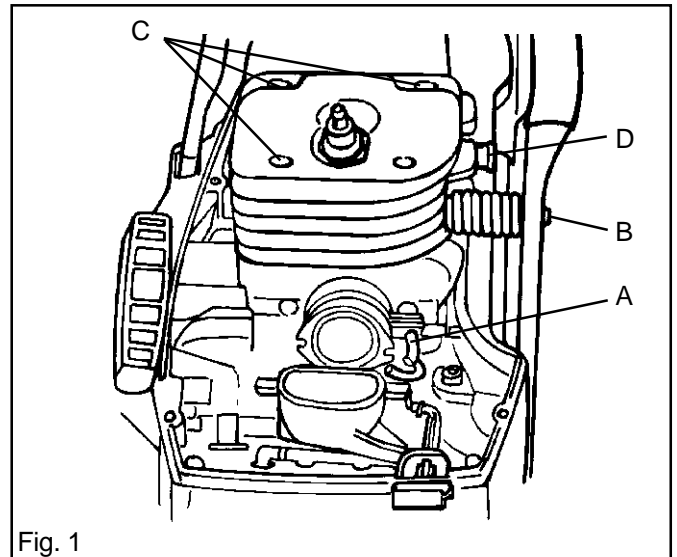

Fig. 1
2. Remove the impulse hose (A) from the hole on the inlet manifold. See fig. 1.
3. Detach the anti-vibration springs (B) from the cylinder. See fig. 1.
4. Undo the four cylinder retaining bolts (C). See fig. 1.
9. Unscrew and remove the decompression valve (D). See fig. 1.